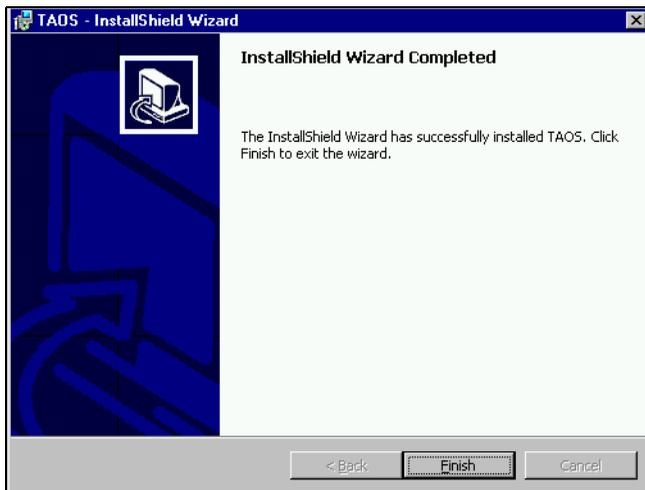

Figure 7-12 *Click Finish.*
13. Click **Finish** to complete the installation (Figure 7-12).